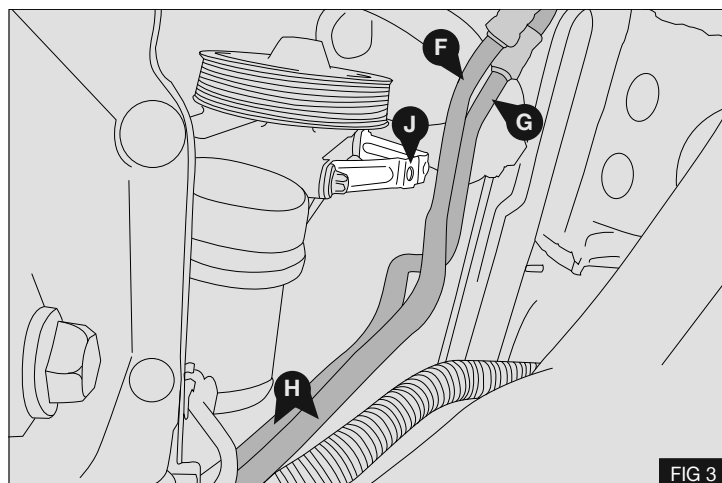

FIG 3
4. Bend pipes (F) and (G) along the straight sections (H) to achieve a clearance of 30mm to the original bracket (J) – Fig 3